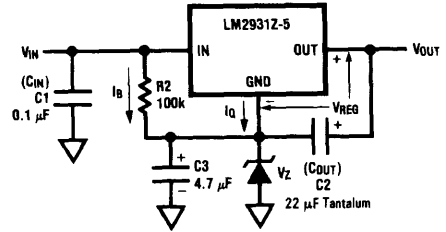

FIGURE 2. PNP Regulator
But if the need is also for a low drop across the regulator, then a PNP pass regulator is required. Simply adding a resistor in the ground pin doesn't work, since the regulator internal current varies too much because of increased base drive to compensate for lower PNP beta. However, if a zener is used instead of a resistor, the higher voltages can be accommodated (Figure 2). The new output voltage (VO) is: